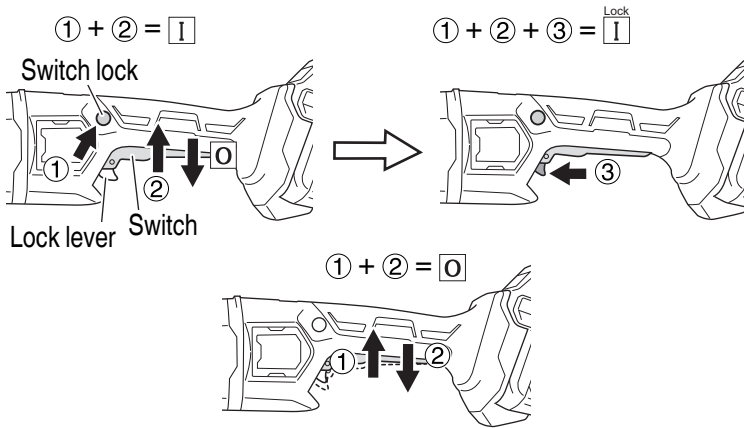

Fig. 11
2. Turn the grinder "on". (**Fig. 11**)
Switch operation (**Fig. 11**)